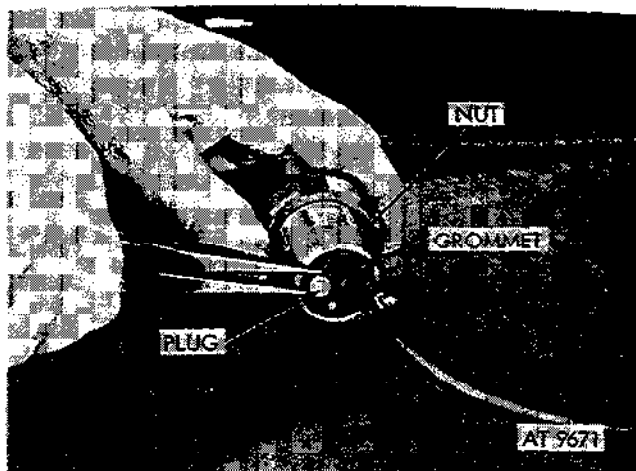

Figure 2-178. Remove plugs from grommet and unscrew retaining nut.
(1) Use suitable tool and pull three insert plugs out of grommet (fig. 2-178) and unscrew grommet retaining nut.